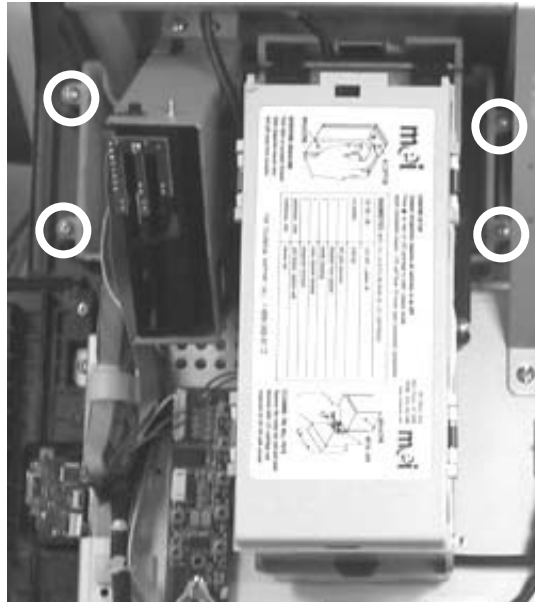

FIGURE 3 – LOCATION OF 4 SCREWS SECURING COIN & BILL ACCEPTOR BRACKET
5. Remove the 4 screws securing the coin and bill acceptor bracket, then remove the bracket from the unit (see Figure 3). Remove wires from plastic twist wraps as necessary.